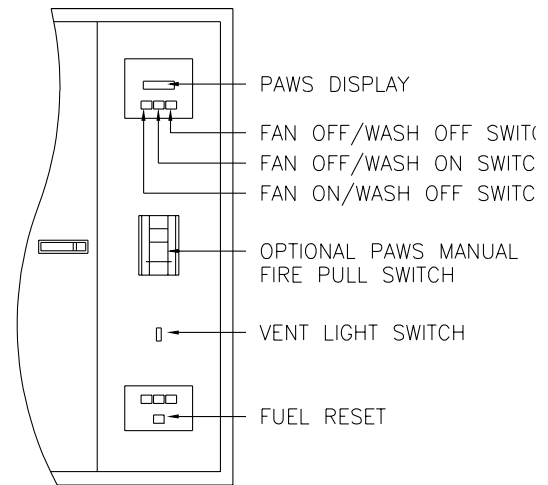

fig. 17
B. PAWS Control Panel [Refer to fig. 17]